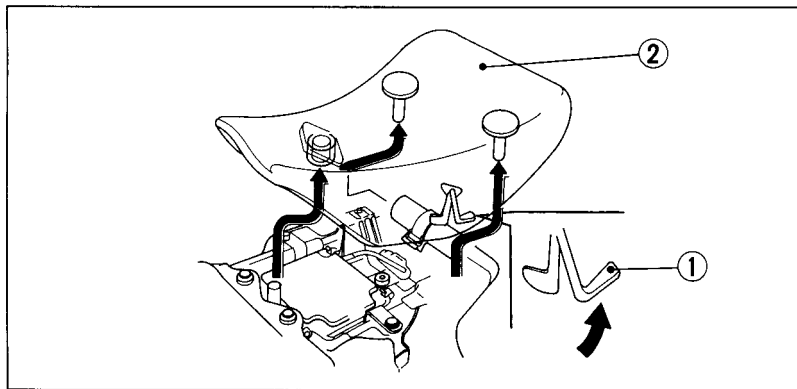

Fig. 4-34 (1) Seat lock lever (2) Seat
To remove the seat (Fig. 4-34), pull up the seat lock lever (1) at the left side of the seat lift it up.